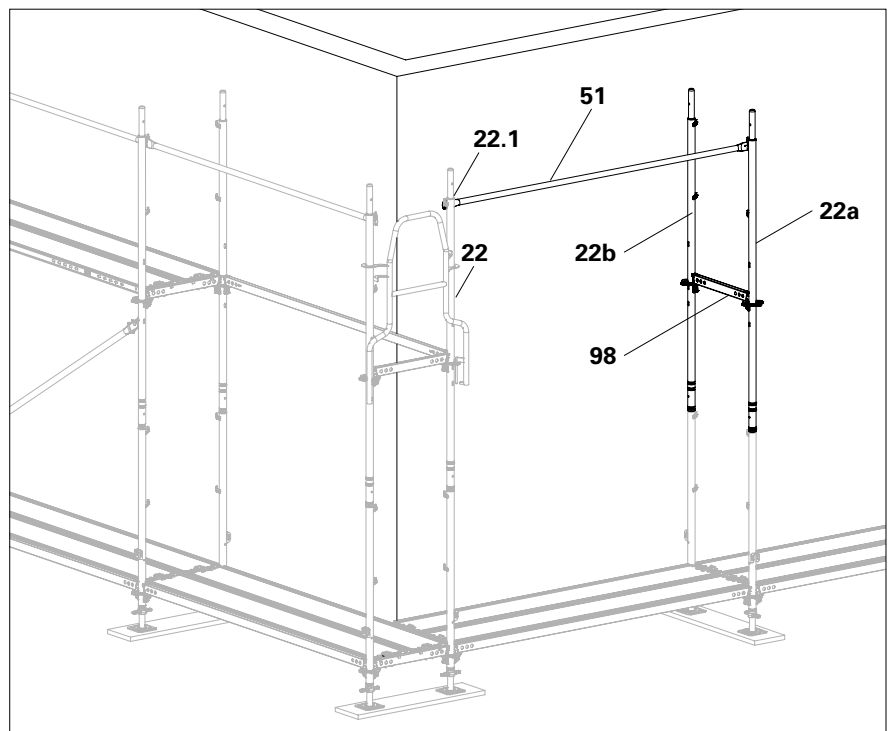

Fig. B6.04
3. On the inner side of the scaffold, fit another Easy standard (**22b**) and connect it to the horizontal ledger (**98**). (Fig. B6.04)